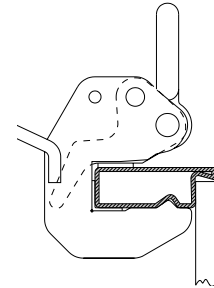

Fig. 36.4
3. Release the safety lever and press it back to its start position so that the crane hook is locked completely (Fig. 36.4).
When moving single horizontal panels, both crane hooks must be attached at the centre of gravity over the cross stiffeners of the profile. When moving several panels at once, make sure each crane hook is attached at a panel joint (Fig. 36.4). This prevents the crane hook slipping.